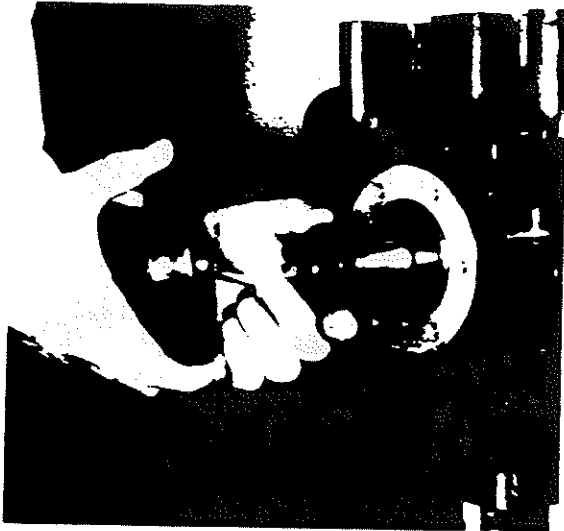

Figure 3-8. Shaft Seal Cover and Carbon Washer Removal
- a. Remove six capscrews and remove shaft seal cover and carbon washer. (See figure 3-8.)